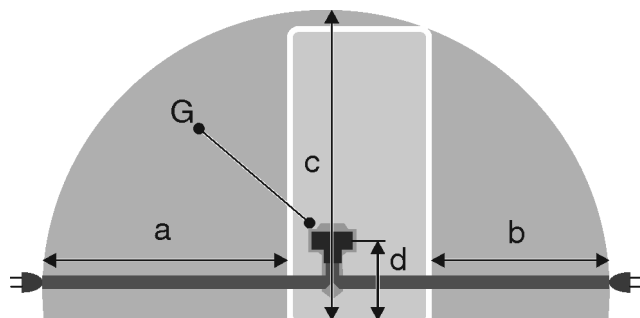

Fig. 54 *
- The socket is not located behind the appliance but in areas a or b Fig. 54 (a, b, c).
- ▶ Insert the appliance plug Fig. 54 (G) into the back of the appliance. Ensure that they latch into place.